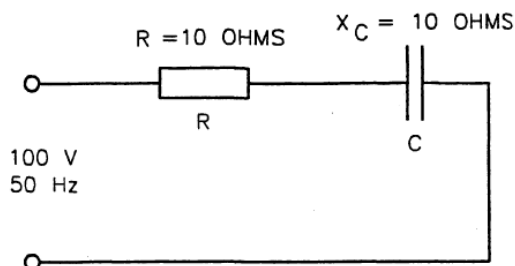

Figure 6 - RC series circuit
27. If a resistor with a resistance (R) of 10Ω was connected in series with a pure capacitor with a capacitive reactance (X_c) of 10Ω , and the supply voltage was $100V$, $50Hz$ a.c., the circuit could be drawn as shown in Figure 6.